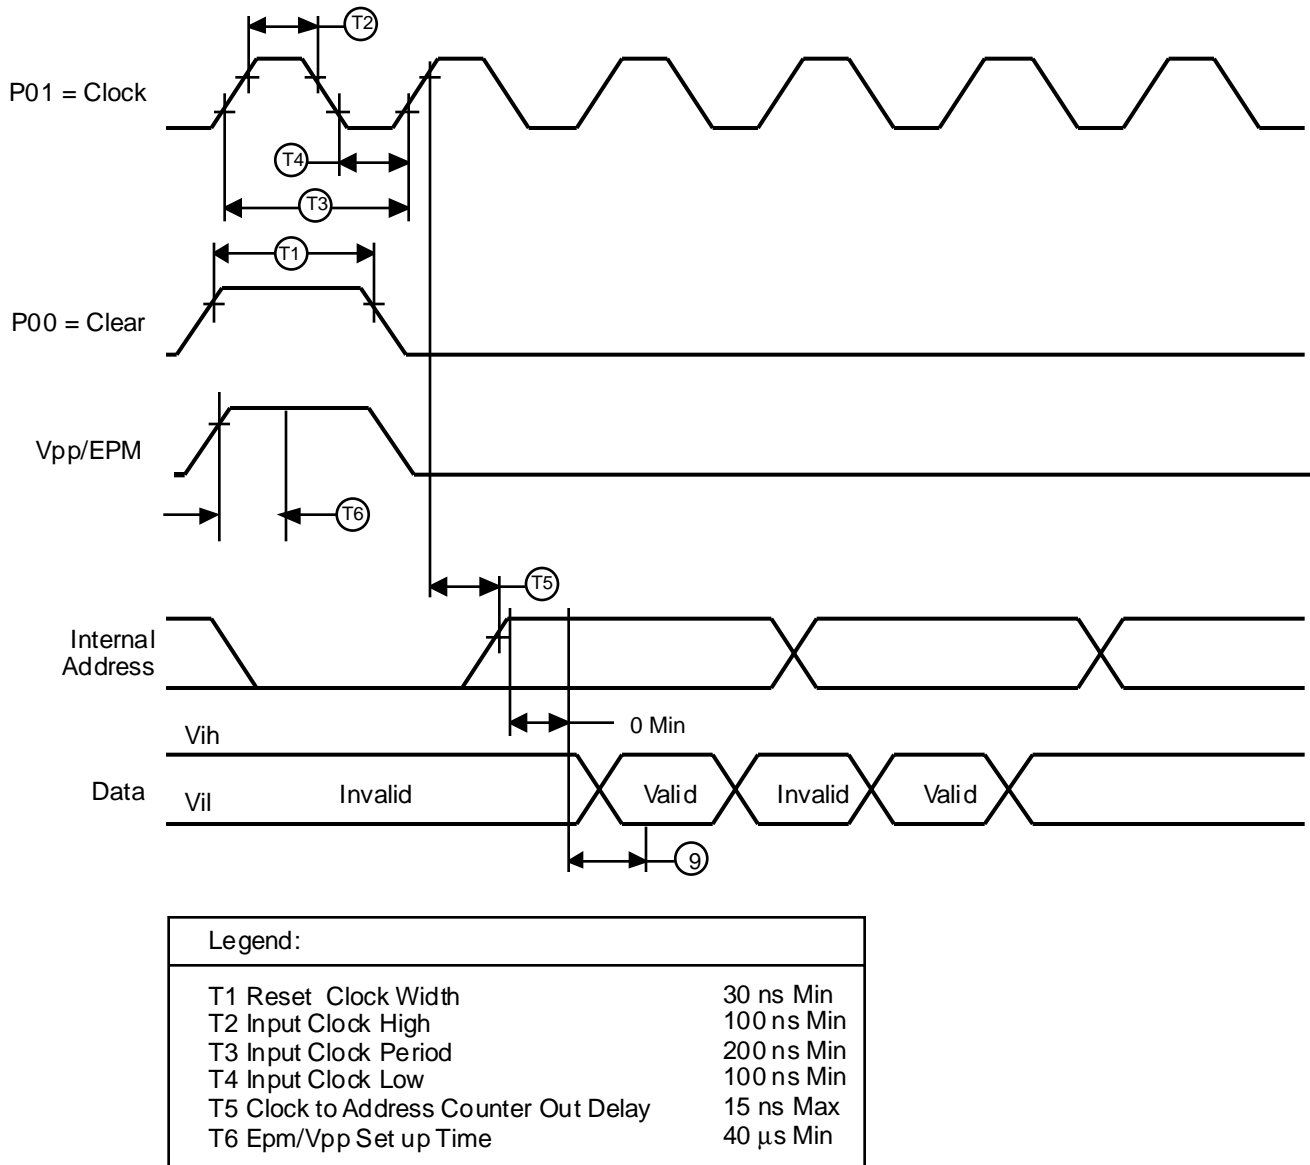

Figure 18. Z86E04/E08 Address Counter Waveform
**Internal Address Counter.** The address of Z8 is generated internally with a counter clocked through pin P01 (Clock). Each clock signal increases the address by one and the “high” level of pin P00 (Clear) will reset the address to zero. Figure 18 shows the setup time of the serial address input.